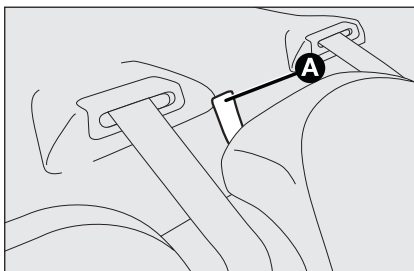

fig. 90
- ☐ pull the two locking devices **A-fig. 90** upwards to unlock respectively the left or right section of the backrest and then guide the backrest onto the cushion.
- ☐ pull the fastening devices **A-fig. 90** upwards to release the backrests and fold them onto the cushion.